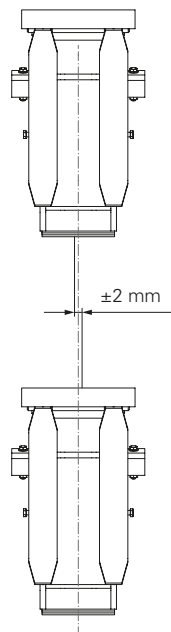

Fig. A3.32
- Climbing Shoe IV:  $\pm 2$  mm (Fig. A3.32)